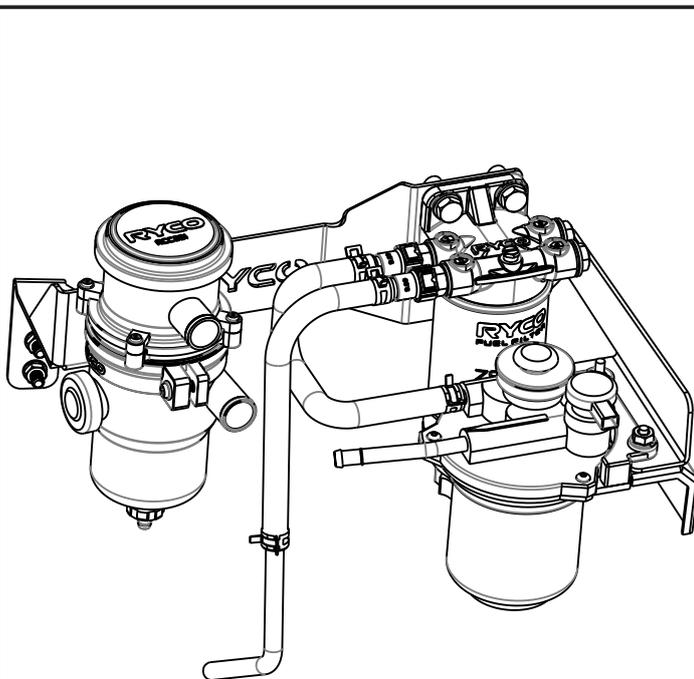

FIG. 8 CATCHCAN INSTALLATION ON THE BRACKET
1. Mount the catchcan onto the X105R bracket by sliding the RCC351 nylon bracket onto the catchcan mounting position. Rotate the RCC351 so the ports are facing toward the front of the vehicle, as per Fig.8 below.